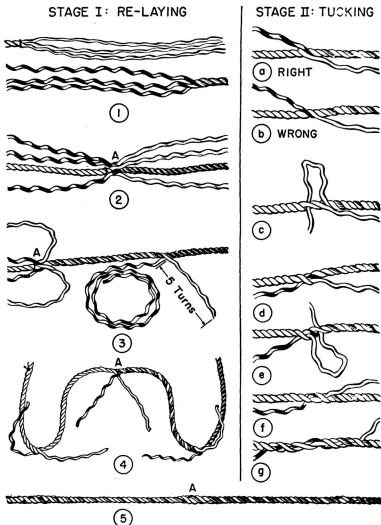

FIGURE 50.—Long splice.
(4) Remove the twine and tuck the free strands of the white rope over and under the strands of the dark rope in the same manner.
(5) Make at least three more tucks with the first rope, repeat for the white rope, and cut off the loose ends. The ends of the splice may be tapered by continuing the tucking process for two or three tucks, cutting out a few fibers from each strand after each tuck. Rolling the splice (under the foot or under a board) will make it compact and smooth.
a. Stage 1: Unlaying.—To make a long splice in a three-strand rope (see fig. 50)—
(1) Unlay 15 turns from the ends and tie strings about one of the ropes at these points.
(2) Bring the two parts together in the same manner as for the short splice.
(3) Beginning at the point where the two parts are placed together, unlay one of the strands to the right, and lay carefully in its place all but the last five turns of the corresponding strand from the left. This latter operation should follow closely the unlaying of the strand to the right. There are still two pairs of strands left at point *A* where the ends were placed together.
(4) Remove the piece of string and run one of these pairs to the left in the same manner as the first pair to the right; cut off the long ends of the strands (including the two remaining at *A*) about five turns from the main rope.
b. Stage 2: Tucking.—The next part of the splicing consists in tucking the ends of the three pairs of strands. All are tucked in the same manner, as follows: being sure that the ends of the strands pass each other as illustrated in (a) (fig. 50) and not as in (b). As shown in (c), bring the strand from the right up over the nearest strand from the